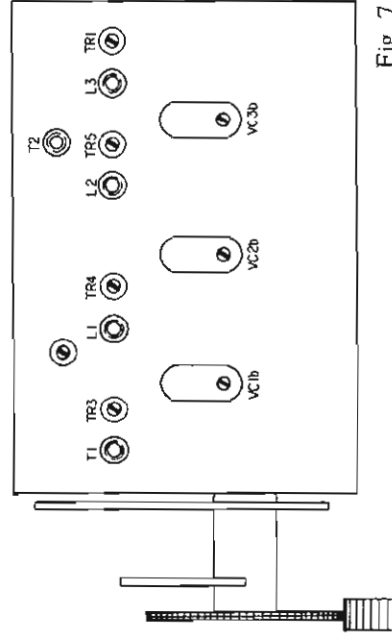
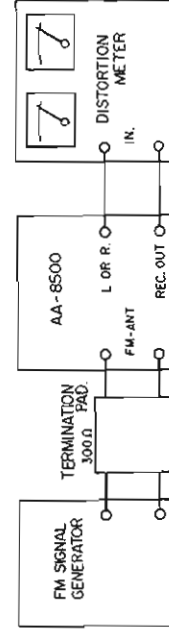

Fig. 7
Fig. 9
- Fig. 7) so that the Distortion meter level indicates maximum.
- c) Set the Signal Generator frequency to 108.5 MHz. Set the tuning dial of AA-8500 to the right end. Adjust C_0 (see Fig. 7) on the front end so that the Distortion meter level indicates maximum.
(1) Instrument Connections
Use the same instruments as used in item 3-3 (Fig. 9), and connect them in the same way.
(2) Adjustments
- c) Adjust the cores of L_1 and T_1 (see Fig. 7) on front end of AA-8500 so that the Distortion meter level indicates maximum and the distortion factor is minimum.
- c) Connect the Distortion Meter to "TAPE-REC" terminal on rear panel (See Fig. 9).
- a) Use the same instruments as used in item 3-3 and connect them in the same way. (Fig. 9) Set the signal generator frequency to 98 MHz, and the output to 60 dB (1 mV). Turn the tuning dial of AA-8500 to receive this signal.